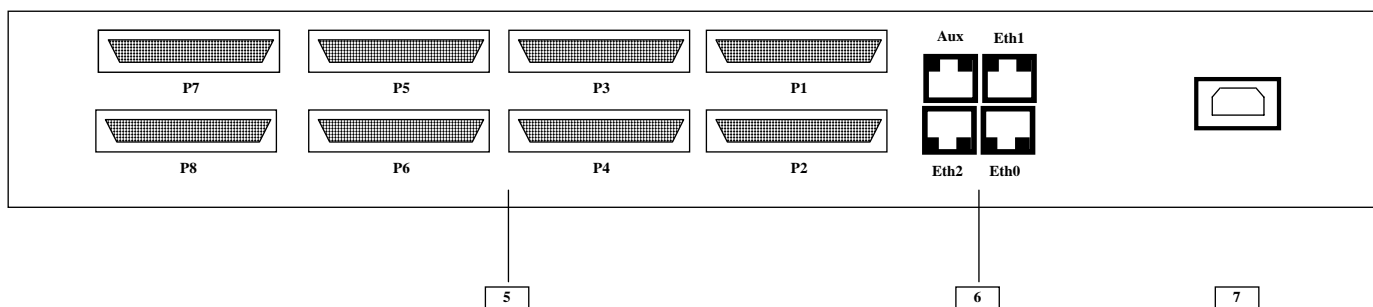

Figure 47 : PLines8 rear panel
- To switch ON the PLines8, plug the power supply cable on the rear panel of the unit (See § Figure 47).
- To switch OFF the PLines8, unplug the power supply cable on the rear panel of the unit (See Figure 47).
- ☞ Refer to Figure 47.